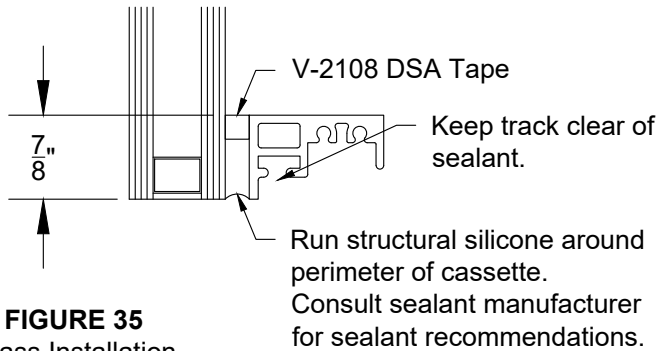

FIGURE 35
- 3.13 Using Structural Silicone as recommended by your choice of manufacturers. Apply sealant around perimeter of cassette unit and tool. Take care to keep sealant out of clip tracks. See FIGURE 35